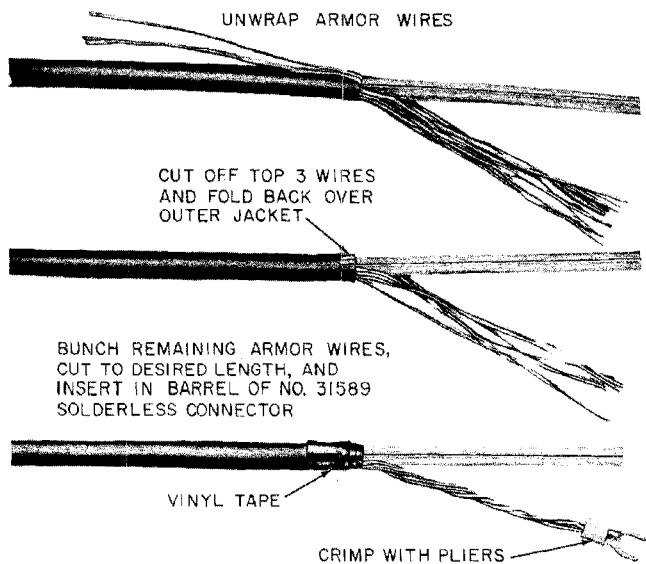

Fig. 12—Preparation of D Underground Wire for Protected Terminal
5.08 D Underground Wire can be terminated in a protector by preparing the end as shown in Fig. 12. The solderless connector can be placed on the ground post in a manner similar to placing the F Connector (on service wire) on the ground post as described in 5.05.